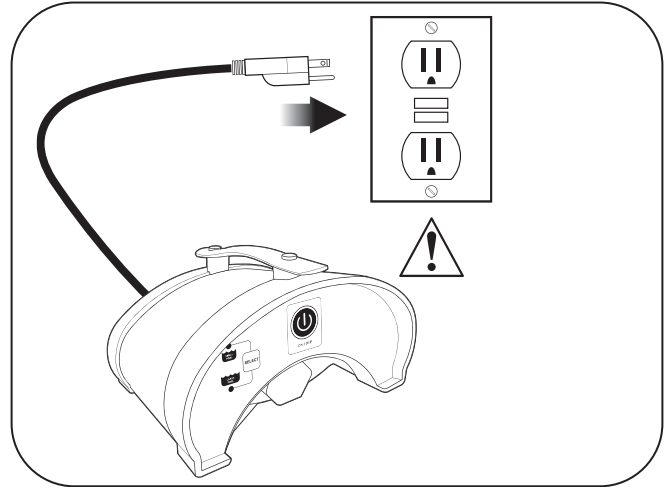

Figure 1. Plug into Power Supply
- U.S.: Per NEC® requirements, keep the control unit at least five (5) ft. (1.5 m) from the edge of the pool. CANADA: Per CEC requirements, keep the control unit at least three (3)m (10 ft.) from the edge of the pool.
1. Plug power supply into a GFCI outlet (Ground Fault Circuit Interrupter) (Figure 1). Power Supply must be 5 ft. from the pool's edge.